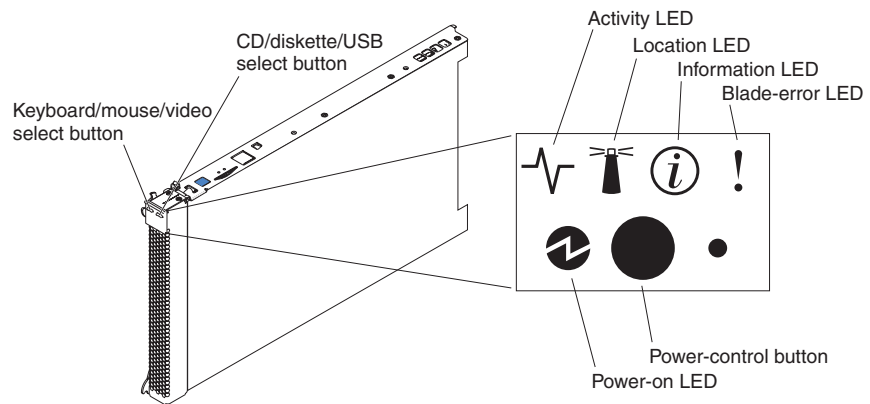

Figure 4. Controls and LEDs
- You can press the power-control button on the front of the blade server (behind the control panel door, see Figure 4 on page 8) to start the server.
- You can press the power-control button on the blade server (behind the control panel door, see Figure 4 on page 8). This starts an orderly shutdown of the operating system, if this feature is supported by the operating system.
This section describes the controls and light-emitting diodes (LEDs) on the blade server (Figure 4).
2. The control panel door is shown in the closed (normal) position in Figure 4. To access the power-control button, you must open the control panel door.